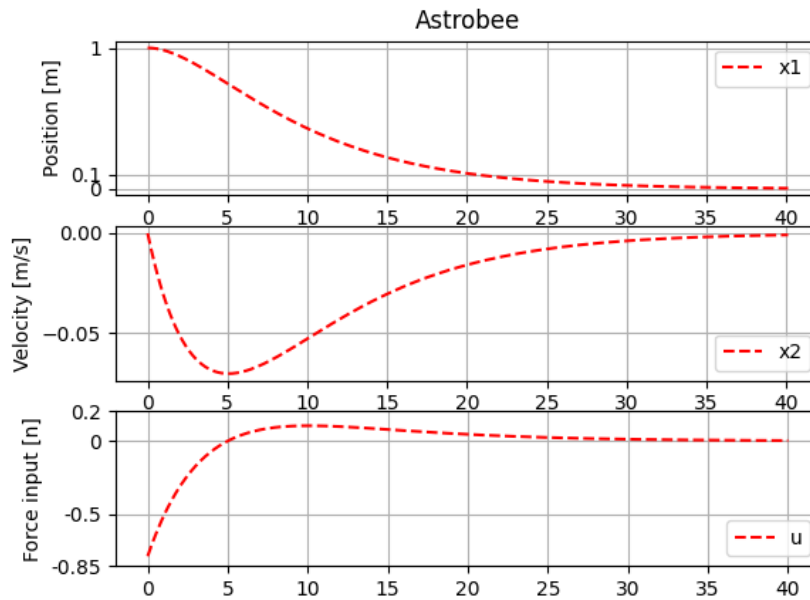

Figure 3: Control of the astrobee - Linear control without disturbance and without feedback
**Q4.** If the control gain  $L$  for the state feedback controller is designed with the two desired poles at  $\lambda_1 = 0.975$  and  $\lambda_2 = 0.985$  the requirements  $x_T = [0 \ 0]^T$ ,  $|u| < 0.85 \text{ N}$  and  $x_{1,25s} < 0.9 \cdot |x_0 - x_{ref}|$ , see figure 3.